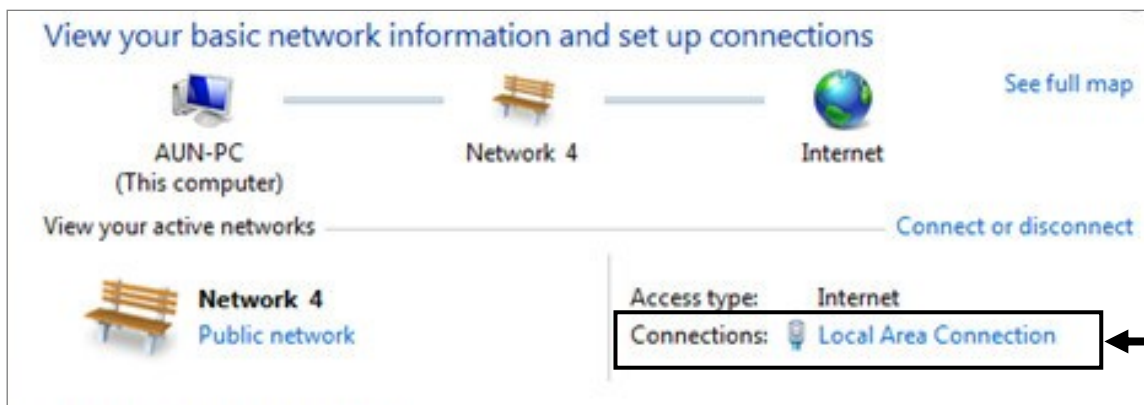

Fig 101. Click “Local Area Connection”
3. Click “Local Area Connection” (Fig 101).